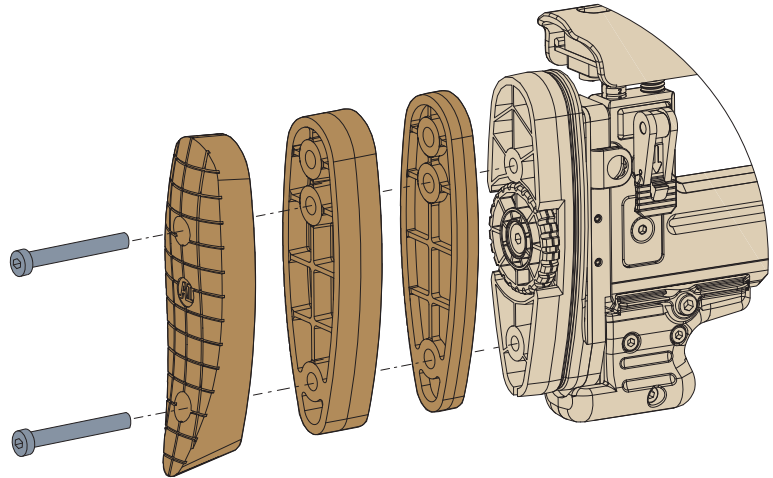

Fig 2-20
- Fit the butt and spacers as shown in Fig 2-20.